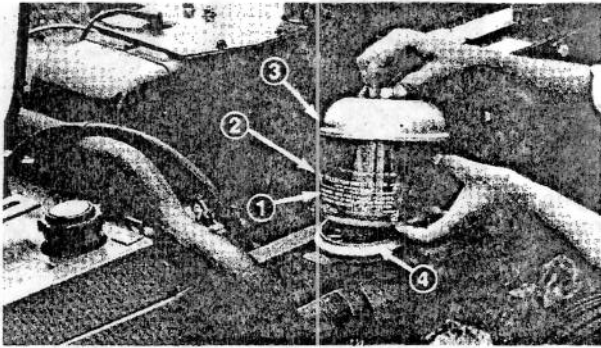

Figure 67
3. Be sure bowl is sealing around bottom of sleeve assembly (Fig. 67).
Visually inspect the bowl once a week; however, daily inspection is required when operating conditions are extremely dusty and dirty. Never allow dust to build up above level marks on outside of bowl (Fig. 67).
1. Loosen thumb screw until cover and bowl can be removed (Fig. 67). Separate cover and bowl.